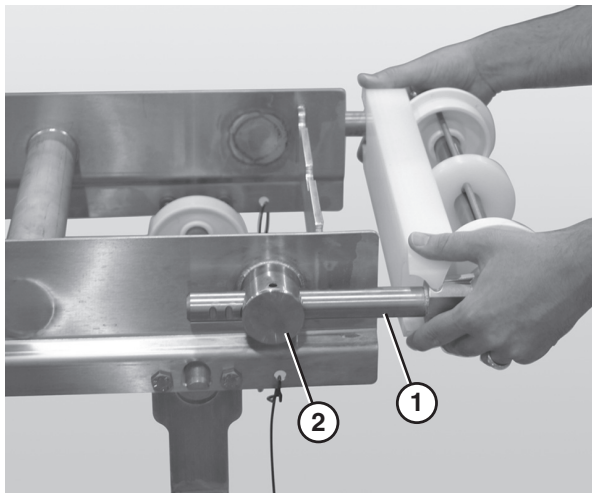

Figure 65
2. Slide the idler tail assembly (**Figure 65, item 1**) out of the take up blocks (**Figure 65, item 2**).